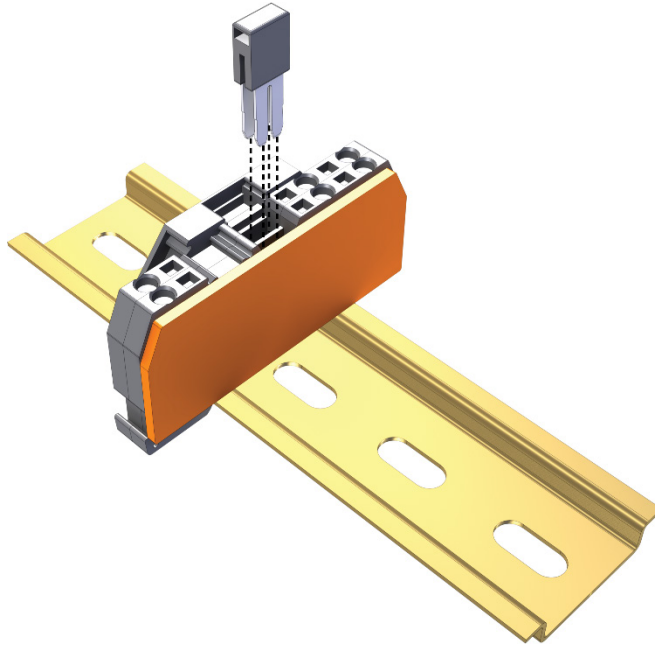

FIGURE B-4. 15909 Jumper installation
2. Insert the 15909 Jumpers in the DIN-rail connectors as shown in FIGURE B-4.